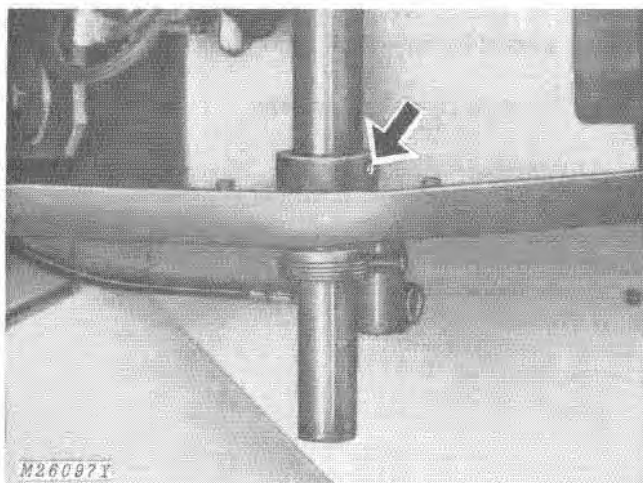

Fig. 7-Locking Collar
3. Remove locking collar set screw, Fig. 7.